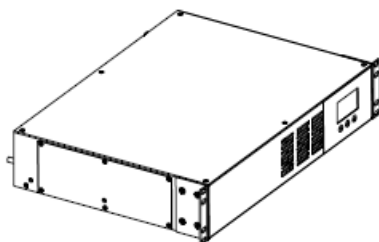

Figure 3
4. Re-install the battery panel on the UPS, using the six anchor screws(**FIG. 3**).